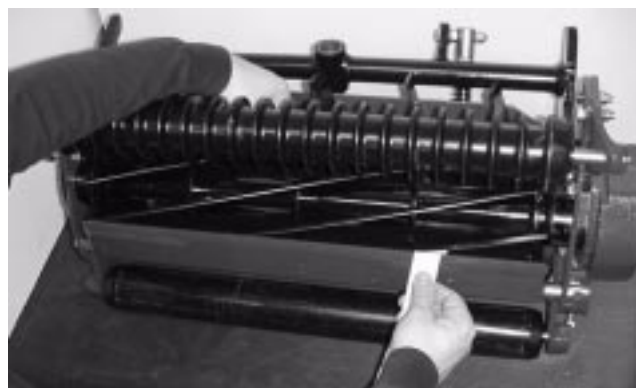

Figure 6
1. Rotate cutting unit backward to gain access to the reel and bedknife (Fig. 6).
4. Insert 1" (25 mm) wide piece of newspaper perpendicular to the bedknife, and then rotate the reel slowly in the mowing direction to see if the reel cuts the paper – do this on both ends of the bedknife (Fig. 6).